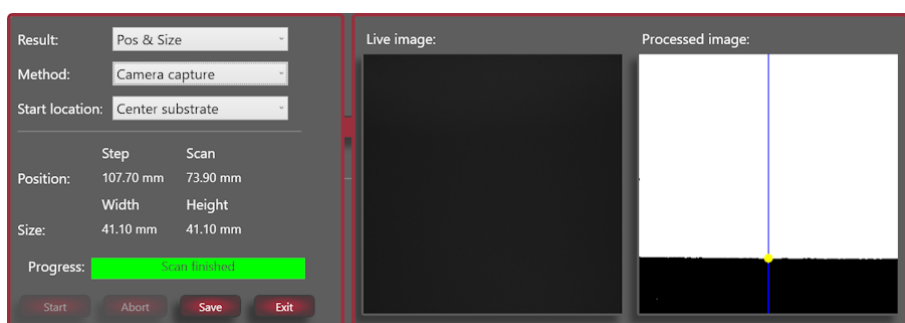

Figure 3-24 Scan finished while showing last edge
9.6. Wait for the substrate scan to finish, see Figure 3-24.